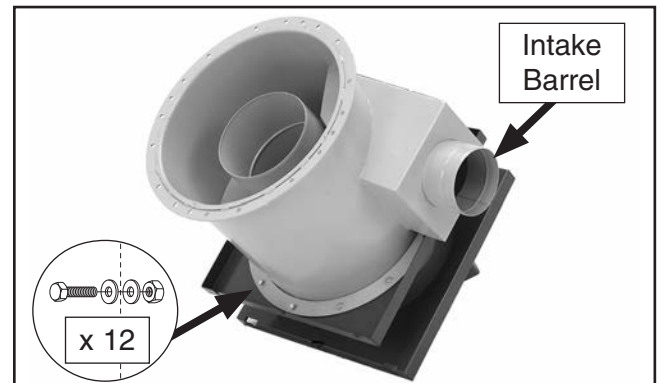

Figure 9. Securing blower on intake barrel.
- Attach intake barrel to blower housing, as shown in **Figure 9**, with (12) $\frac{5}{16}$ "-18 x $\frac{3}{4}$ " hex bolts, (12) $\frac{5}{16}$ " flat washers, and (12) $\frac{5}{16}$ "-18 lock nuts.